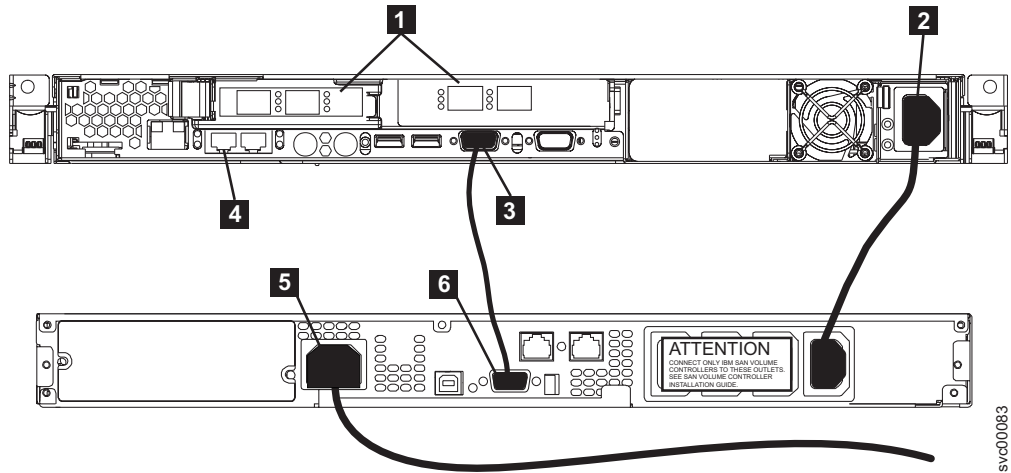

Figure 39. Connecting the SAN Volume Controller 2145-8F2 power cable to the 2145 UPS-1U
1. At the back of the SAN Volume Controller 2145-8F2, plug a power cable into the power connector **2**. See Figure 39.